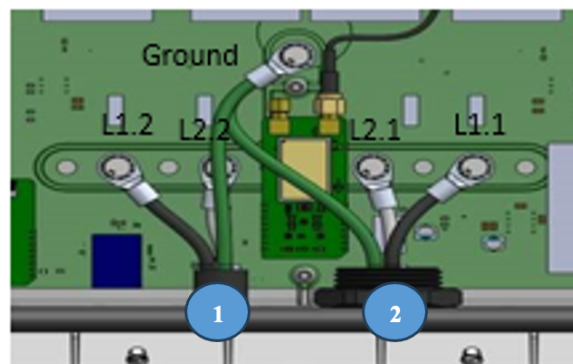

Figure 13: Install Power Leads for Dual Port Configuration
- a. Install power leads for dual port configurations as shown in Figure 13: Install Power Leads for Dual Port Configuration. Provide dedicated 50A branch circuits per port for 40A units; provide dedicated 60A branch circuits per port for 50A units. Remove screws located on terminal studs.